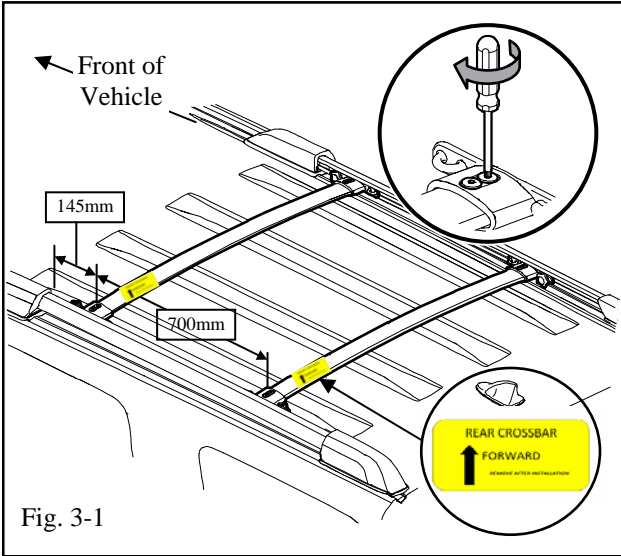

Fig. 3-1
- (a) Position front and rear crossbars so they are parallel. Front crossbar should be 145mm (5.7 in.) from the back of the front cover to the crossbar center. Rear crossbar should be 700mm (27.6 in.) from the front crossbar center to the rear crossbar center. (Fig. 3-1)
-  (c) Tighten RH side M6 wafer head screws using a T25 torx head screwdriver. Torque M6 wafer head screws to 1.8 N-m (15.9 lbf-in.). (Fig. 3-1)
- (d) Remove both front and rear yellow crossbar position labels and discard after proper assembly. (Fig. 3-1)